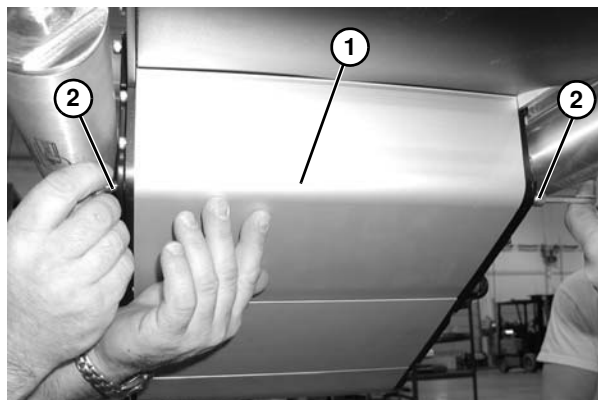

Figure 160
2. Temporarily support idler guard assembly (**Figure 160, item 1**). Remove screws (**Figure 160, item 2**).